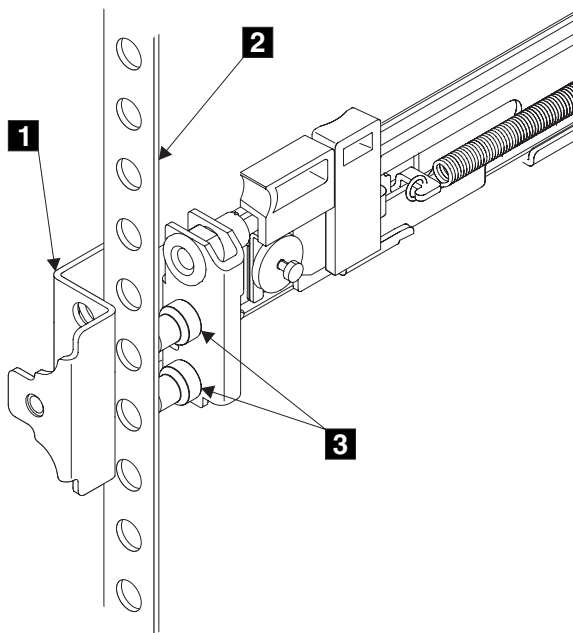

Figure 106. Installing the front end of the rail
6. Place the front end of the left rail in the rack cabinet. Align the top of the front bracket **1** (Figure 106) with the required EIA marking that is on the rack.